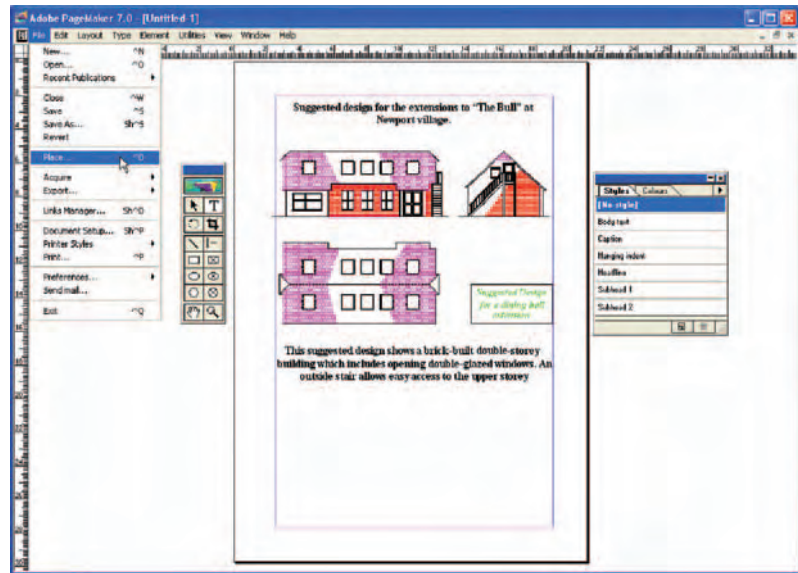

Fig. 10.5 An ***eps** file placed in position in a PageMaker document
Second example – EPS file (Fig. 10.5)
2. Open a desktop publishing application. That shown in Fig. 10.5 is **PageMaker**.
3. From the **File** drop-down menu *click* **Place...** A dialog appears listing files which can be placed in a PageMaker document. Among the files named will be **building.eps**. *Double-click* that file name and an icon appears the placing of which determines the position of the ***eps** file drawing in the PageMaker document (Fig. 10.5).